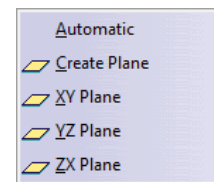

Figure 18-61 The shortcut menu
1. Right-click in the selection box of the **Symmetry** area in the **Control Points** dialog box; a shortcut menu is displayed, as shown in Figure 18-61.